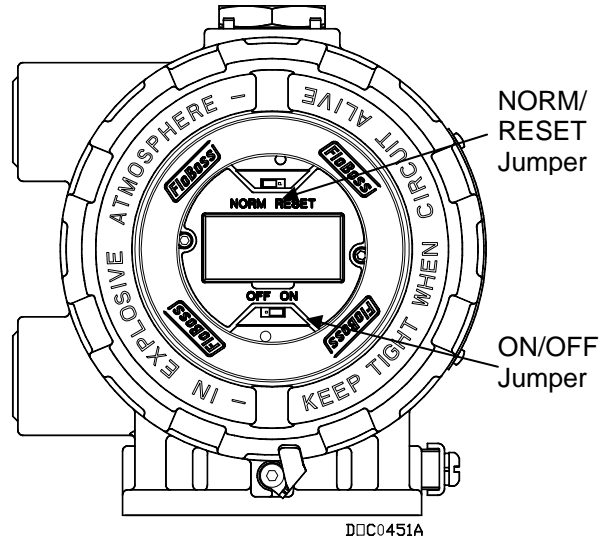
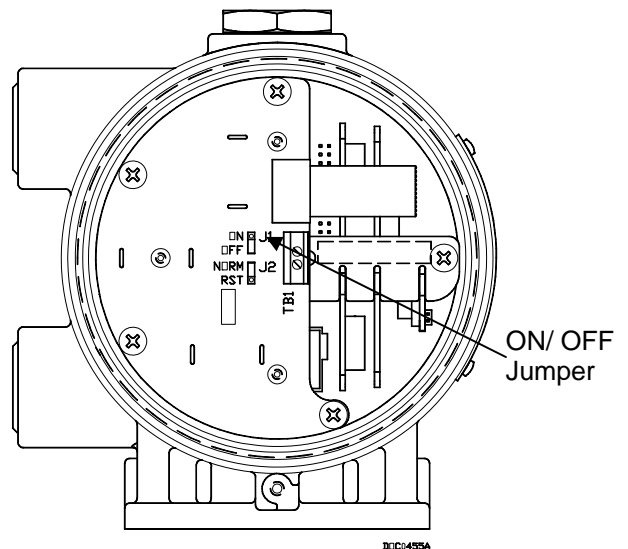

Figure 6. Front End of FloBoss 103 (with LCD)
Figure 7. Front End of FloBoss 103 (without LCD)
- Place the power jumper (located on the LCD if installed or located at J1 on the Battery Charger Board) in the ON position. See *Figure 6* and *Figure 7*.